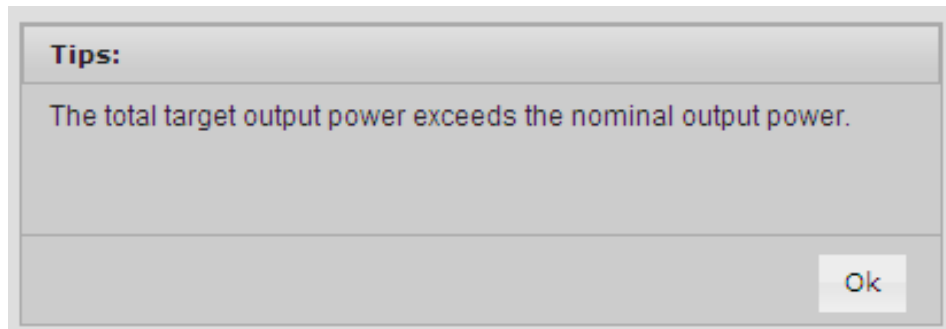
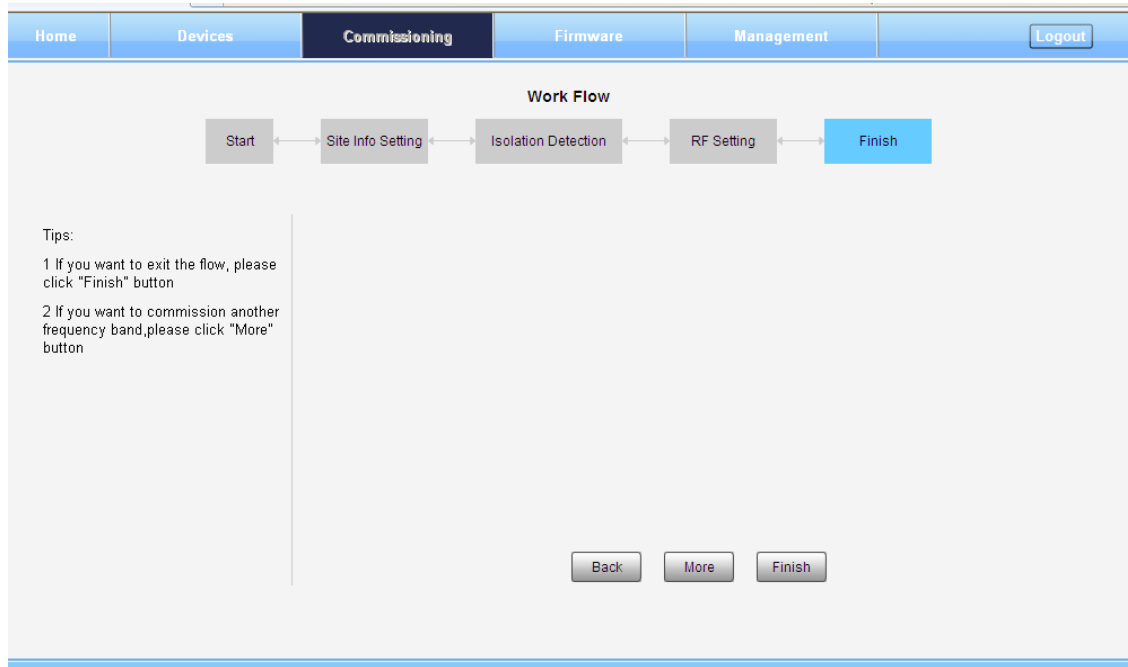

Figure 59: DL Output Power Over Exceed
Figure 60: Commissioning Procedure – Finish
**NOTE:** For each RF module, the total target output power of all subbands which channel switch is on must not exceed the nominal downlink output power (27, 30, 33dBm); if yes, Tips window will pop-up shown as Figure 59. Finish the output power setting, click  button, go to Finish Screen shown as Figure 60.